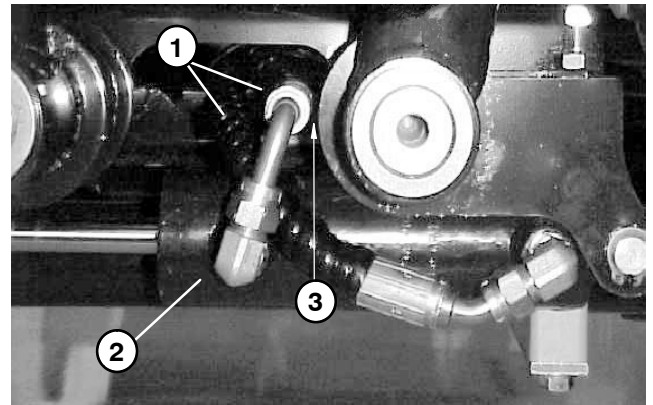

Figure 19
5. Route hydraulic hoses so they clear the lift arm by 0.040 to 0.120 inch (1.0 to 3.0 mm) when the lift arm is fully raised (Fig. 19).